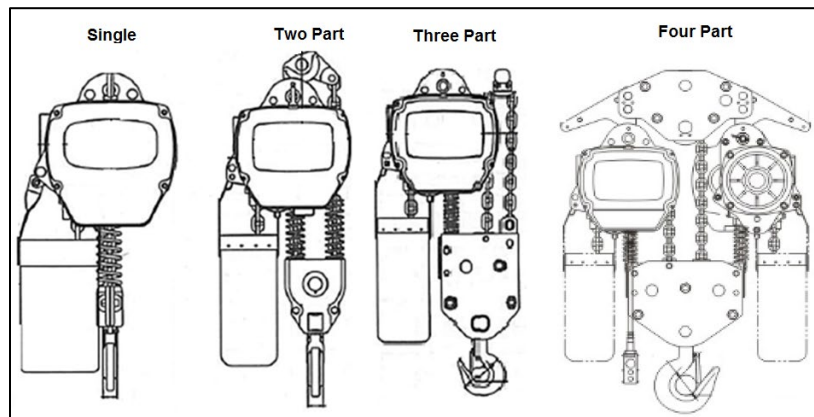

Figure 6.6.2
8. Parting of replacement chain must be the same as the original parting of chain on the hoist. Refer to Figure 6.6.2 for parting arrangement of hoists.